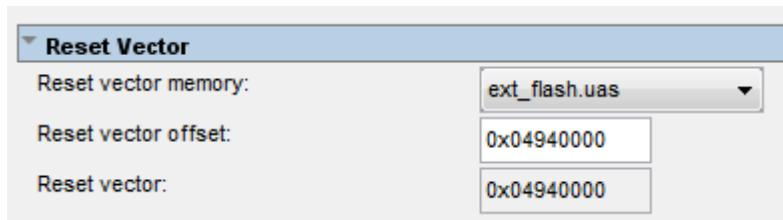

Figure 4-4 Reset Vector Settings for NIOS II Processor
2. In NIOS II processor options, select FLASH as reset vector memory and specify 0x04940000 as reset vector, as shown in Figure 4-4.